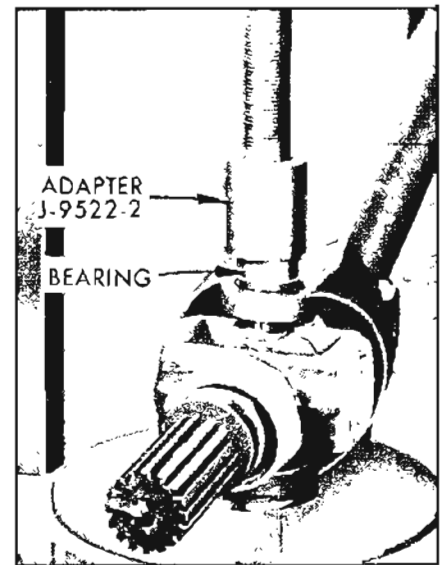

Figure 6-66—Pressing Bearing Into Position
3. Place the assembly in position with Power Ram J-6180 and Pump J-6207 as shown in Figure 6-66.